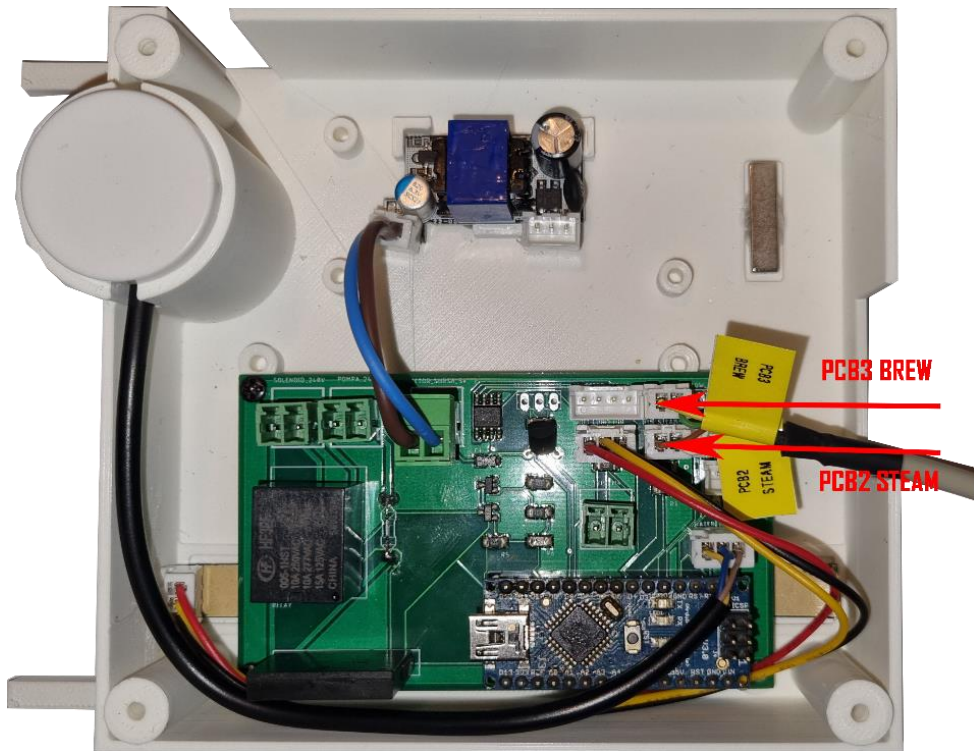

Fig. 6.3
- Plug in the BUTTONS CABLE - PCB plugs (PCB3 BREW, PCB2 STEAM) and let the rest of the cable outside the case through the big hole (fig. 6.3)